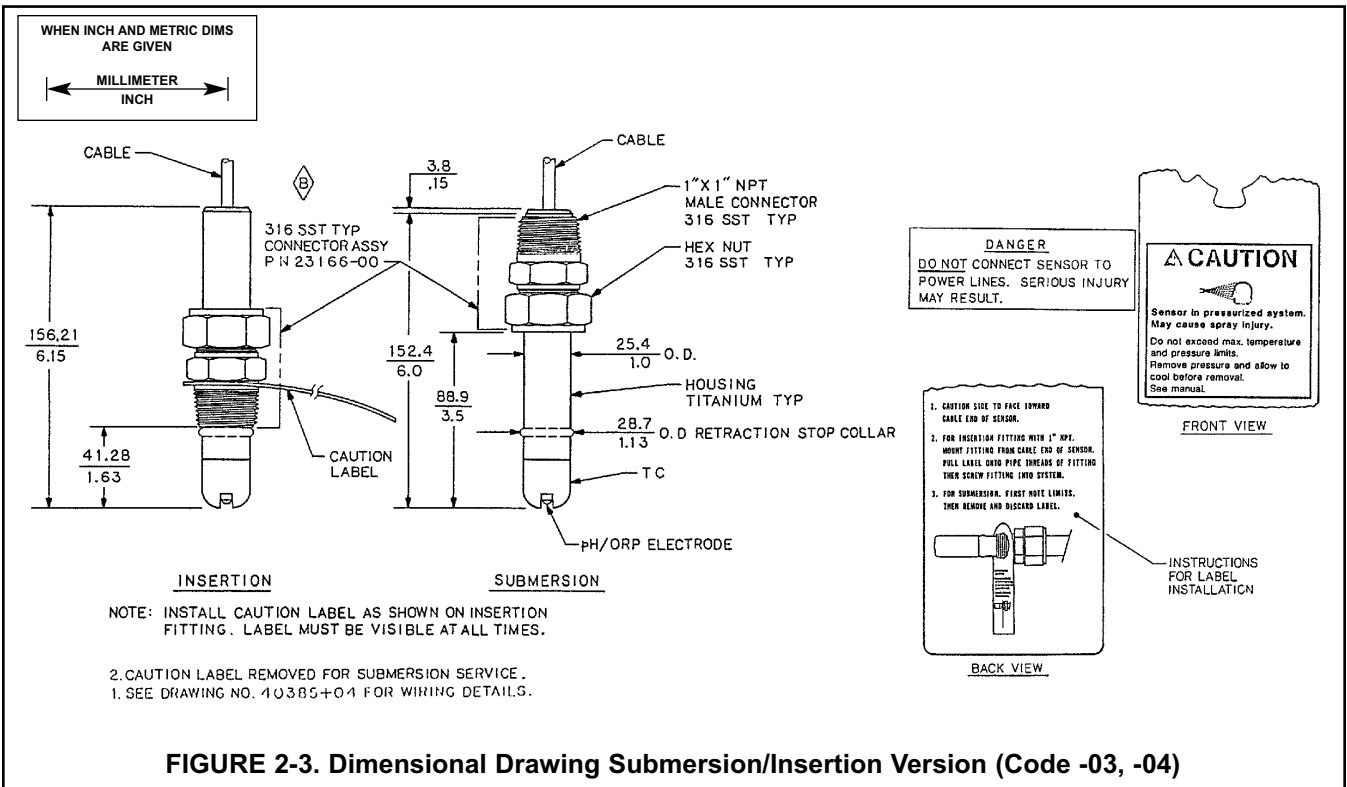
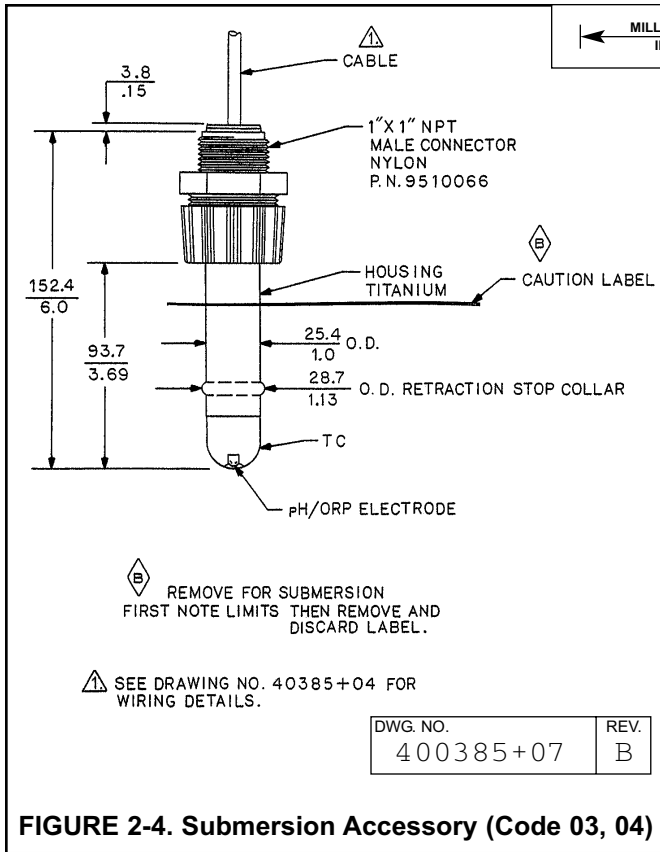
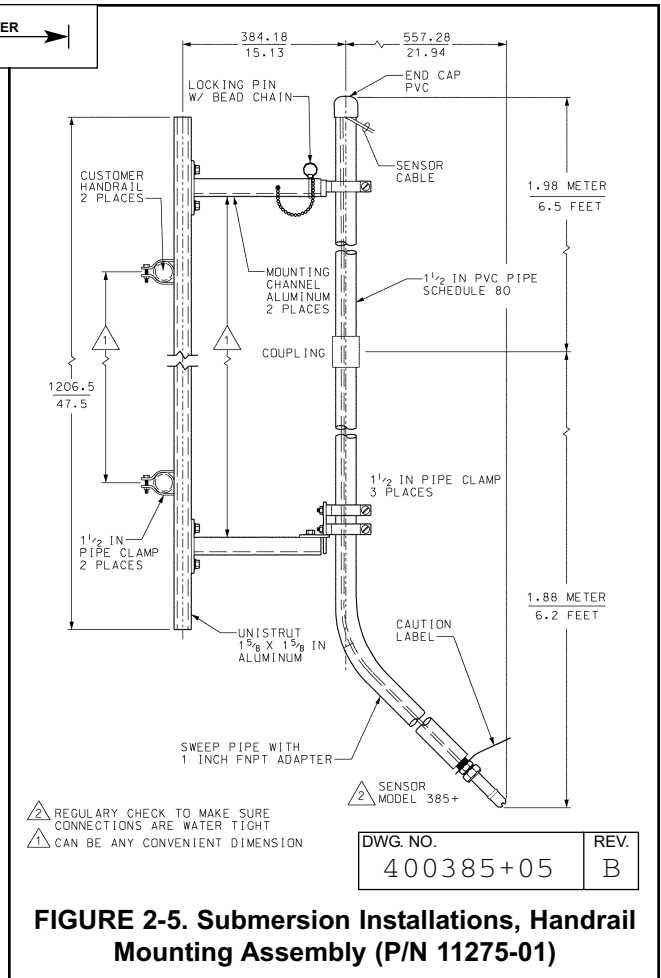

FIGURE 2-3. Dimensional Drawing Submersion/Insertion Version (Code -03, -04)
FIGURE 2-4. Submersion Accessory (Code 03, 04)
FIGURE 2-5. Submersion Installations, Handrail Mounting Assembly (P/N 11275-01)
2.2.2 Submersion/Insertion Option. Code Option -03 & -04). Figure 2-3 and Figure 2-4. The Model 385+ Sensor may be installed through a weldalet or a pipe tee or "Y" when used with a process connector (P/N 23166-00-01). For submersion service, a process connector (P/N 23166-00-01 or 9510066) may be used with a water tight 1 in. schedule 80 CPVC or PVDF standpipe conduit. Refer to Figure 2-5. Tapered threads in plastic tend to loosen after installation. It is therefore recommended that TEFLON tape be used on the threads and that the tightness of the connection be checked frequently to assure that no loosening has occurred. The sensor should be installed within 80° of vertical, with the electrode facing down.
8. Connect the sensor wires to the terminals on the printed circuit board in the junction box in the manner recommended on the junction box cover, or see Figure 2-4. Reattach the BNC connector to the preamp. Screw on the cover of the junction box.
11. Open ball valve and position the sensor at the desired insertion depth and orientation. Using a crescent or open end wrench, tighten the hex nut (B) to secure the sensor in place.